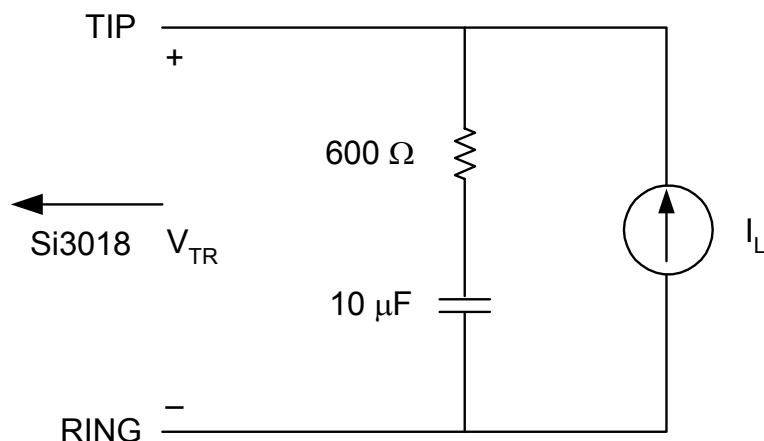

Figure 1. Test Circuit for Loop Characteristics
($V_D = 3.0$ to 3.6 V, $T_A = 0$ to 70 °C for K-Grade, see Figure 1)
- Measured at TIP and RING with 600 Ω termination at 1 kHz, as shown in Figure 1.
- Measured at TIP and RING with $600\ \Omega$ termination at 1 kHz, as shown in Figure 1.